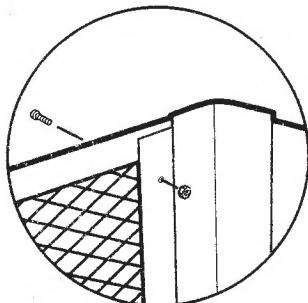

Figure 5
5. Assemble side pieces of screen to end sections of screen using the #6 x 3/8" screws & nuts. (**Figure 5**)